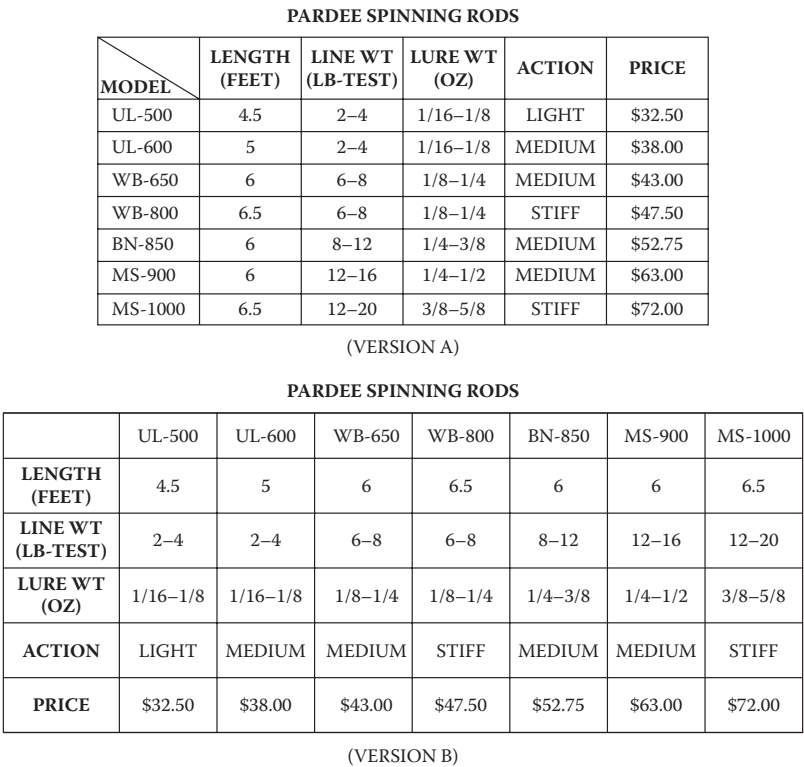

FIGURE 5.8 Two versions of a table showing the importance of vertical comparison.
- Display items vertically that you want your reader to compare directly. Most people find it much more difficult to compare information that is arranged horizontally (see Figure 5.8.)